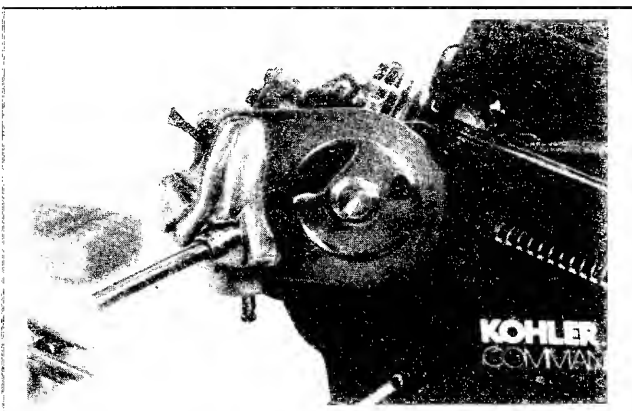

Figure 11-38. Installing Air Cleaner Base On CH6.
1. Install new carburetor gasket, then the air cleaner base to carburetor with the two nuts. Also install and secure the capscrew. See Figure 11-38.